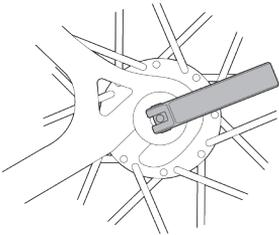
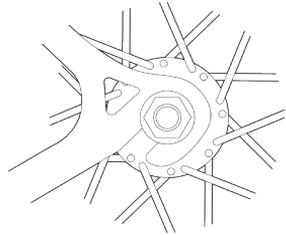

fig. 12a
fig. 13
4. With a cam action mechanism, move the quick-release lever to the OPEN position (fig. 12a). With a through bolt or bolt on mechanism, loosen the fastener(s) with an appropriate wrench, lock lever or integral lever (fig 13); then push the wheel forward far enough to be able to remove the chain from the rear sprocket.
1. With a cam action (Quick Release) system, move the cam lever to the OPEN position (see fig. 12a). The lever should be on the side of the wheel opposite the derailleur and freewheel sprockets.
7. With a through-bolt or bolt-on system (fig. 13), tighten the fasteners to the torque specifications in Appendix D or the hub manufacturer's instructions. Use the correct size wrench; tighten the axle nuts enough so that the wheel stays in place; then use a wrench on each nut simultaneously to tighten the nuts as tight as you can.
8. If you disengaged the brake quick-release mechanism in 3. c. (2) above, re-engage it to restore correct brake pad-to-rim clearance.